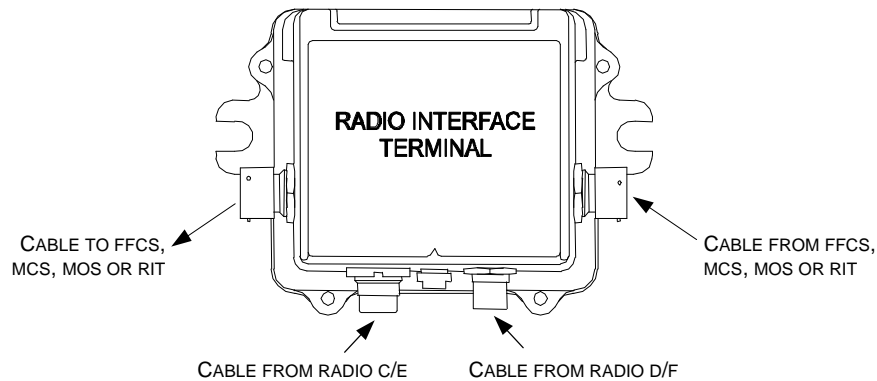

Figure 3-4. Radio Interface Terminal (RIT)
3.5. RIT REMOVAL AND REPLACEMENT (Fig. 3-4)